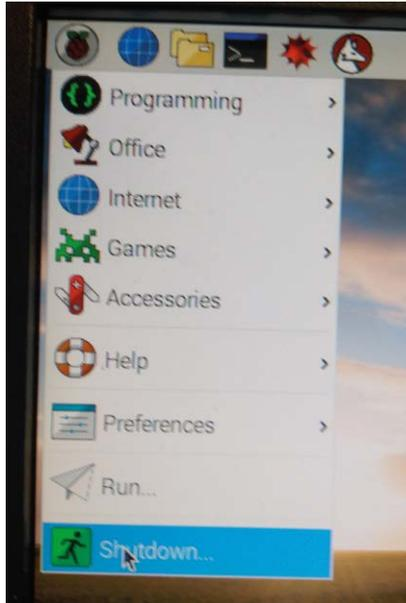

Figure 2.12 Shutdown or reboot in GUI mode
- Click Shutdown (see Figure 2.12)